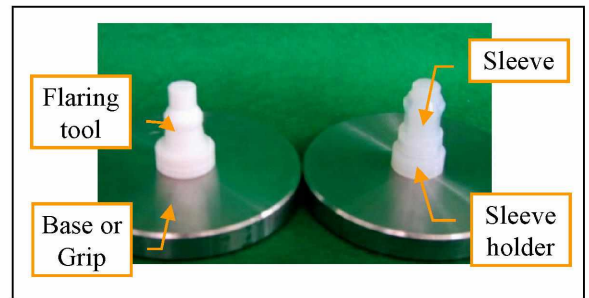

Fig. 68 - Preparation for flaring
- Set the Flaring tool and the Sleeve holder to Base or Grip (see Fig. 68).